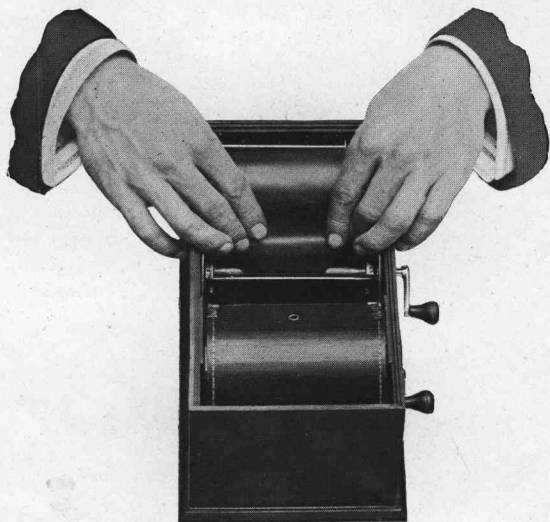

Fig. 4.
6. Break the sticker that holds down the end of duplex paper, thread the paper underneath wire guard on Transferring Reel—through which axle "D" passes (Fig. 4), and turn axle slowly to right until the word "stop" appears on duplex paper.